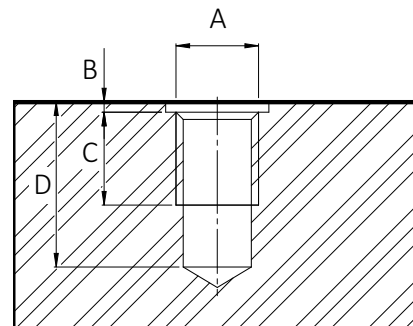

Figure 15: Mounting threads
1. Mount the camera to the base using suitable M4 screws at 2.7 Nm maximum torque for a thread engagement (C) of 6 mm between screws and mounting threads, see Figure 15. For details, see your model's technical drawings.